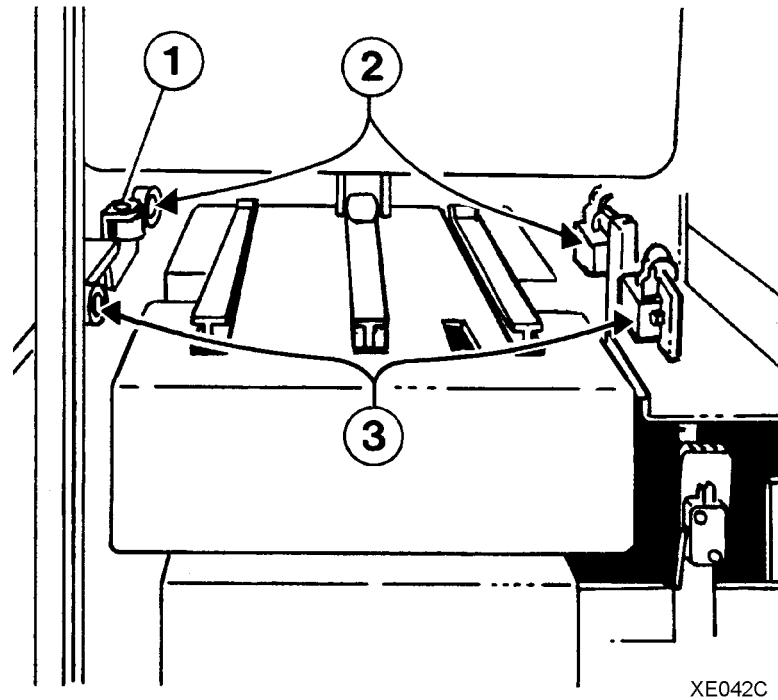

Figure 3-44 Locating the Q1221, Q1218, and Q1227 sensors
2. Locate the Q1221, Q1218, and Q1227 sensors, as shown in figure 3-44.